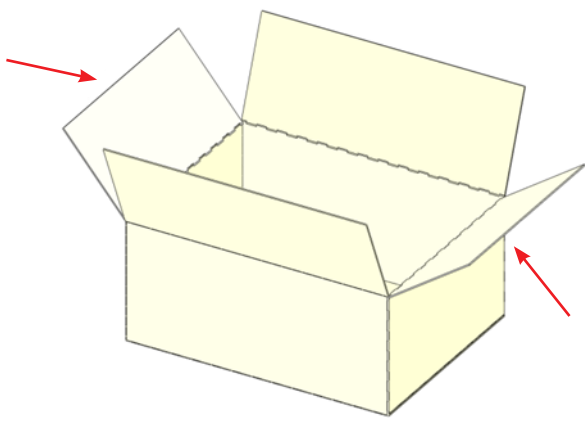

Figure 38: Fold Minor Flaps
1. Fold minor flaps inward as shown in Figure 38